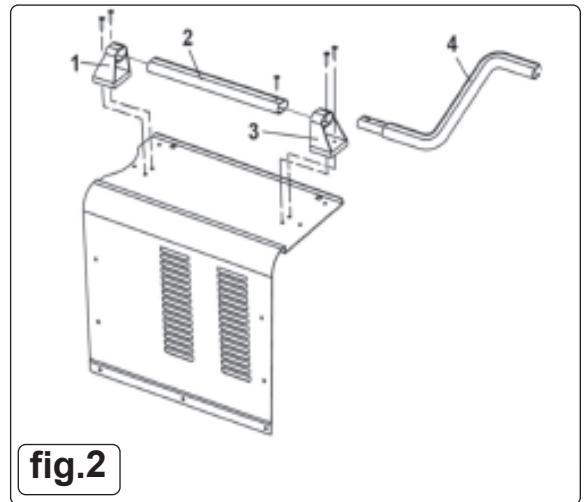

fig.2
4.3. ASSEMBLY OF HANDLE (See fig.2)